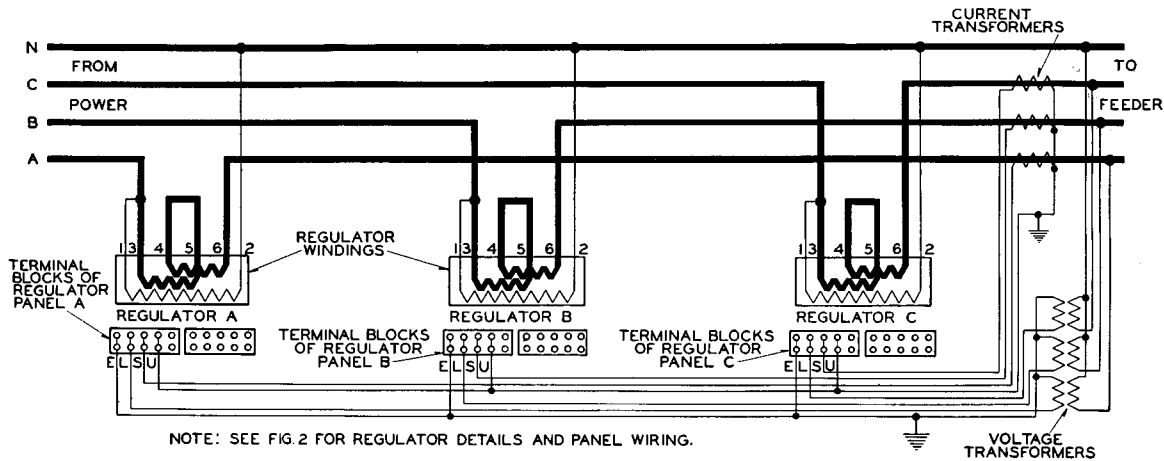

FIG. 18—DIAGRAM OF CONNECTIONS FOR THREE SINGLE-PHASE REGULATORS ON A THREE-PHASE, FOUR-WIRE CIRCUIT
90. Diagram Fig. 18 shows this arrangement for the indoor type and Fig. 24 for the outdoor type.